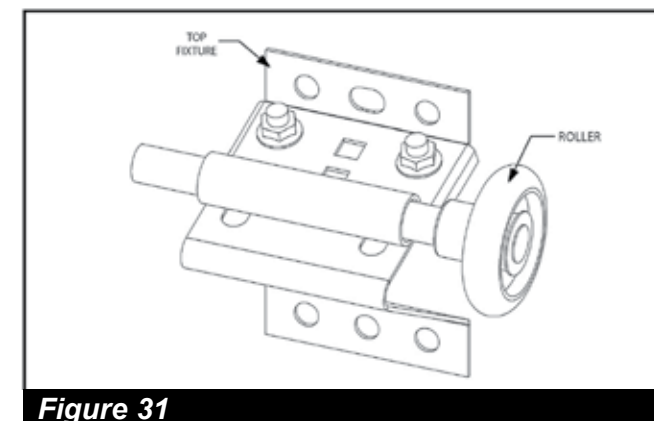

Figure 31
**END BEARING PLATES** Slide adjustable bracket on top fixtures (Fig. 31) away from door until the top section is tight against the door stop and tighten the adjusting bolts. Fasten end bearing plates to the horizontal angle with two 3/8" x 7/8" carriage bolts and 3/8" **RED** flange nuts. Fasten the end bearing plates to the header with 5/16" x 1 5/8" **RED HEAD** wood lags (See Figs. 36-10, 32-12, or 32-15, depending on the radius of the track).